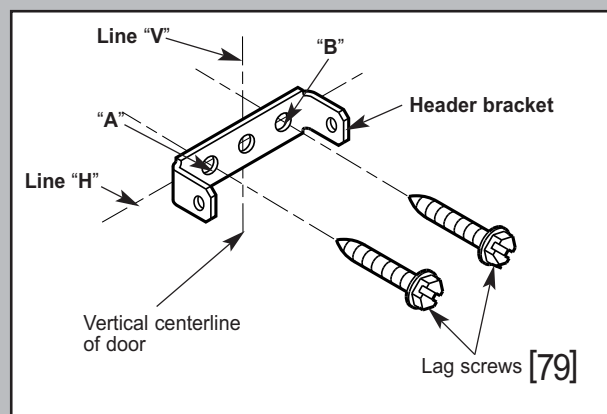

Fig. 2-11
**4. Install header bracket (Fig. 2-11).**
- Fasten header bracket to header with two (2) 1/4" x 2" lag screws [79].